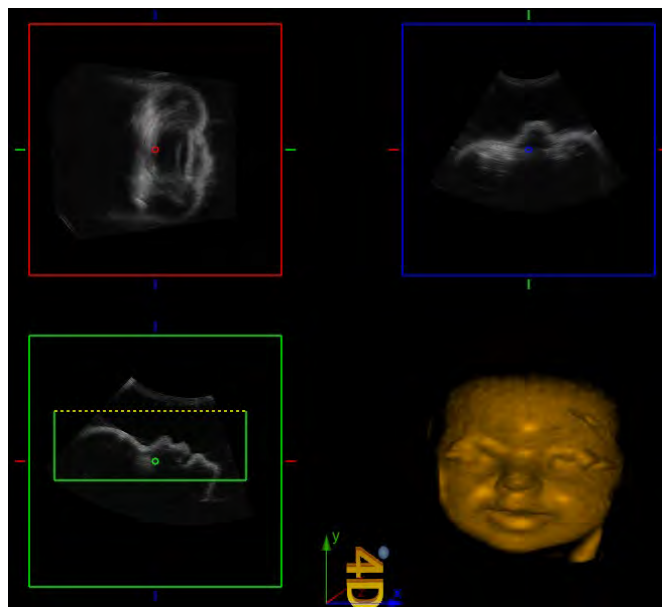

Figure 201: A/B/C/VR mode
- A/B/C/ VR mode (as shown in Figure 201)